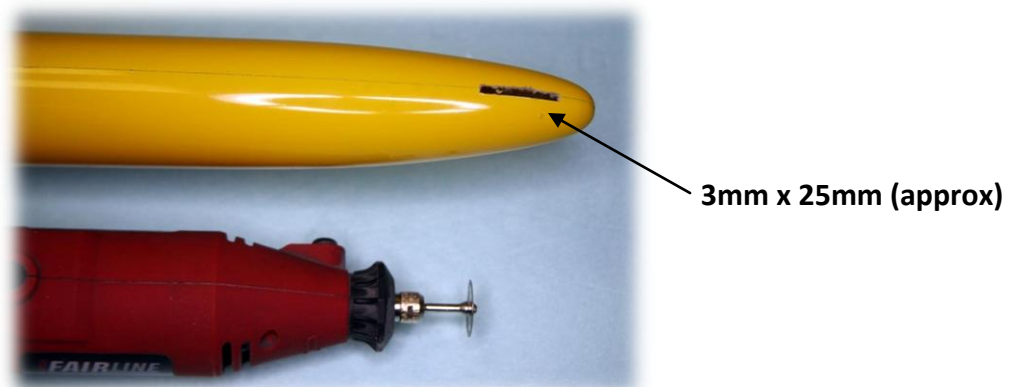

Figure 2: Slot cut in the fuselage
3. Using your Dremel tool with cutting wheel carefully cut the slot in the fuselage as shown in figure 2. Test fit the mounting bracket in the front of the fuselage. Adjust the size of the slot if required.